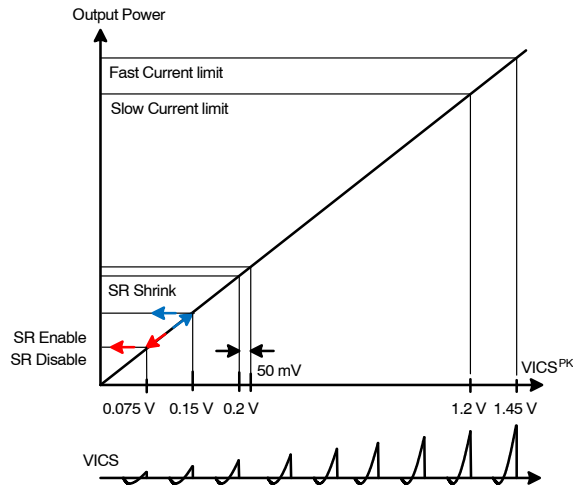
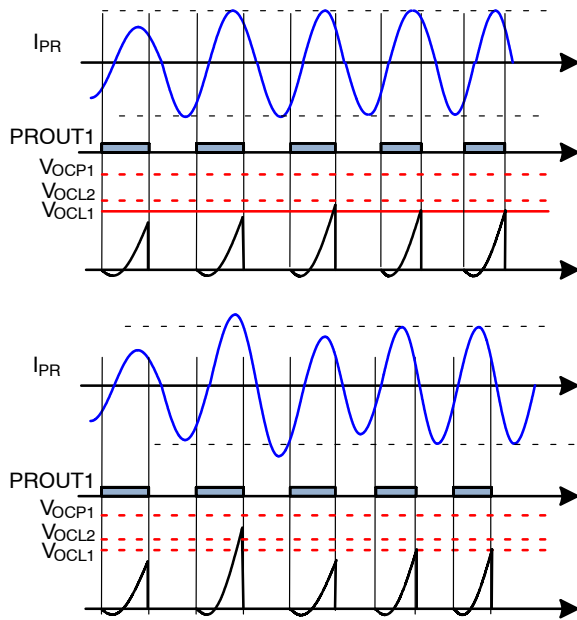
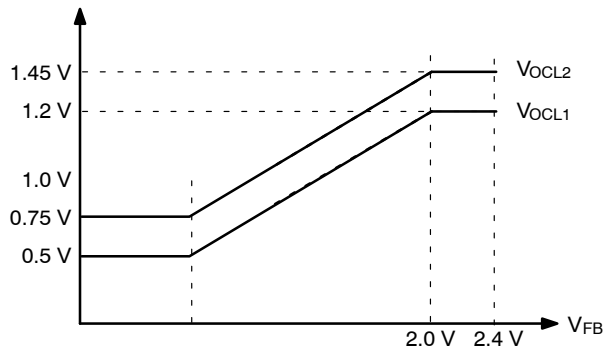

Figure 63. Functions Related to VICS Peak Voltage
Figure 64. Current Limit of the ICS Pin by Frequency Shift (Compensation Cutback)
Figure 65. Current Limit Threshold Modulation as a Function of Feedback Voltage
Since the peak value of the integral of the current sensing voltage ( $V_{ICS}$ ) is proportional to the average input current of the LLC resonant converter, it is used for four main functions, listed and shown in Figure 63.
3. **Over-Current Limit:** The  $V_{ICS}$  peak value is also used for input current limit. As can be seen in Figure 63, there exist two different current limits (fast and slow). When the  $V_{ICS}$  peak value increases above the slow current limit level ( $V_{OCL1}$ ) due to a mild overload condition, the internal feedback compensation voltage is slowly reduced to limit the input power. This continues until the  $V_{ICS}$  peak value drops below  $V_{OCL1}$ . During a more severe over load condition, the  $V_{ICS}$  peak value crosses the fast current limit threshold ( $V_{OCL2}$ ) and the internal feedback compensation voltage is quickly reduced to limit the input power as shown in Figure 64. This continues until the  $V_{ICS}$  peak value drops below  $V_{OCL2}$ . The current limit threshold on the  $V_{ICS}$  peak value also changes as the output voltage sensing signal ( $V_{FB}$ ) decreases such that output current is limited during overload condition as shown in Figure 65. These limit thresholds change to higher values ( $V_{OCL1.BR}$  and  $V_{OCL2.BR}$ ) when the converter operates in deep below resonance operation for a longer holdup time (refer to holdup time boost function).